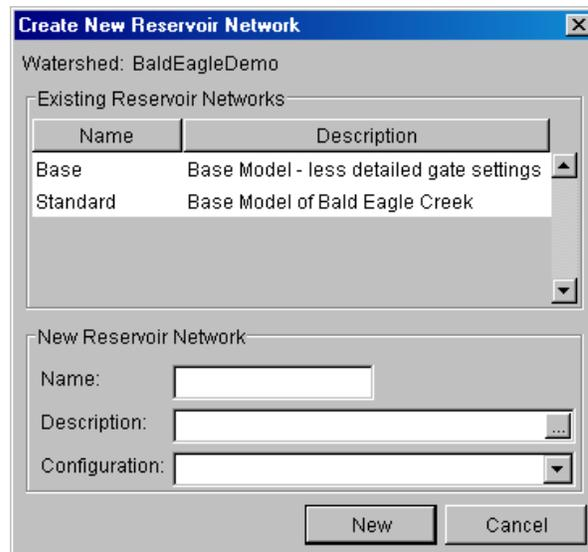

Figure 8.11 Create New Reservoir Network Dialog Box
1. From the **Network** menu, select **New**. The **Create New Reservoir Network** dialog box will appear (Figure 8.11).